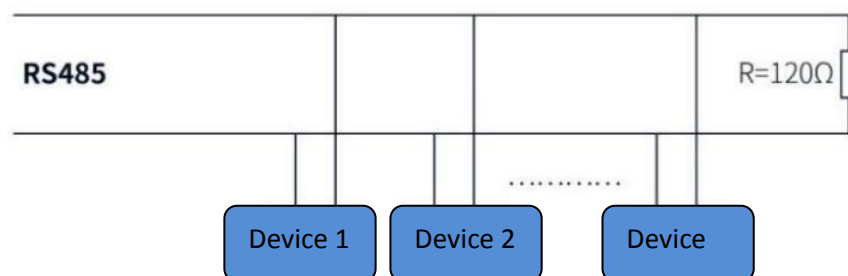

Figure 4-2
- When using RS485 protocol to connect multiple devices, please refer to the connection method shown in Figure 4-2 below. But the resistance value is determined by the number of devices connected by the user.